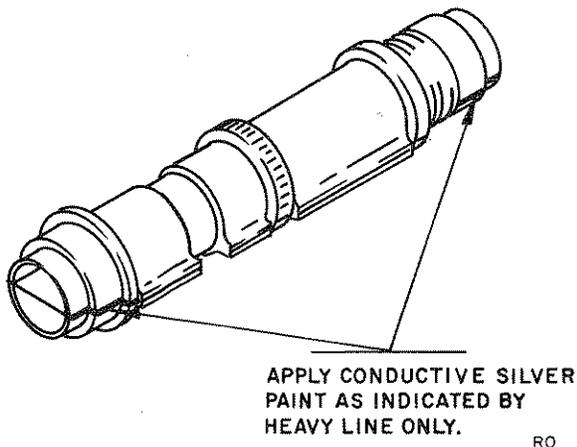

Figure 11. Application of Silver Paint to Choke Joint of Center Section
- (12) Remove excess wrinkles by tapping center section with plastic hammer on untightened seam. If wrinkles still exist, repeat with opposite side loose. Do not remove pins; just loosen screws. Note: Steps (5) thru (12) must be completed before silver paint dries (approximately 1/2 hour).
- (13) Refer to Figure 11. Apply conductive silver to seams of choke joint on ends of center section.